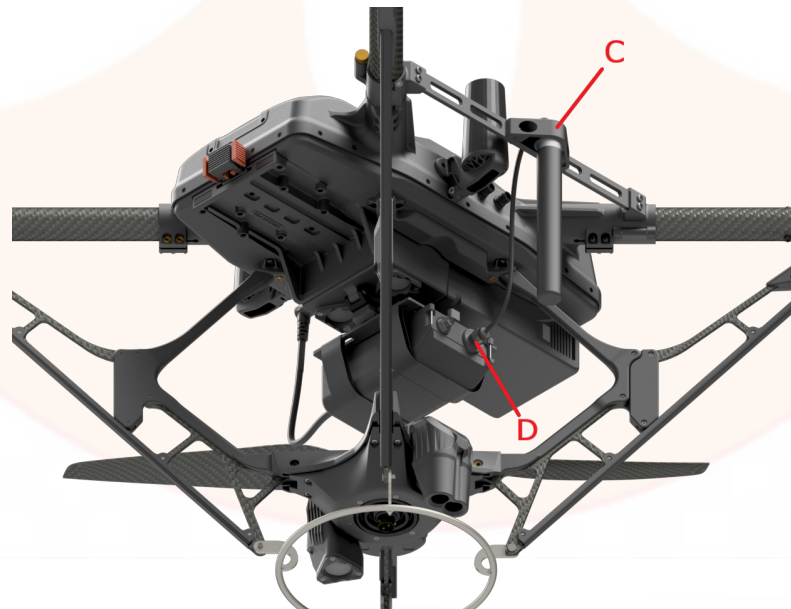

Figure 17: TW-870/875 Radio Installation 2
4. Install one Antenna Bracket with one Octane Antenna (see Bracket and Antenna installation instructions above) on the left side of the aircraft (**Figure 17, C**).
5. Connect the Octane Antenna cable to the radio's **RF TNC** connector (**Figure 17, D**).